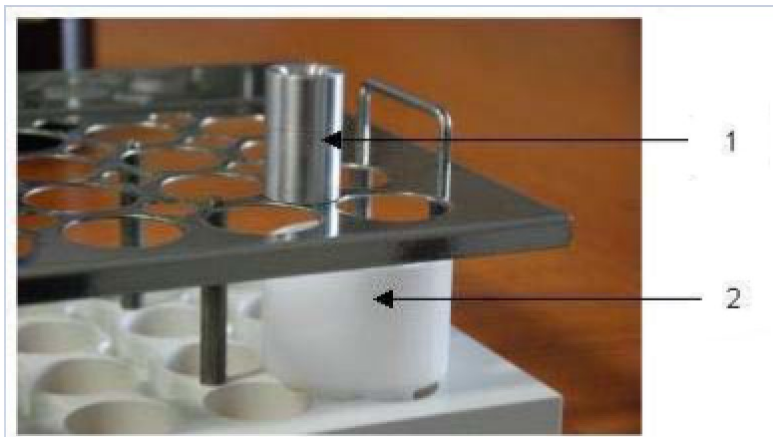

Figure 12 Ejection SPE columns
13. Insert the waste container and the scraper for the SPE columns on the tray (see figure 12).